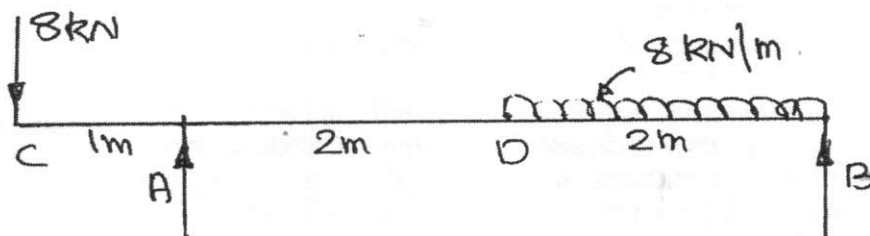

Figure 4 (a)
4. a) A beam AB is loaded as shown in Figure 4 (a). Draw SFD and BMD showing salient features.